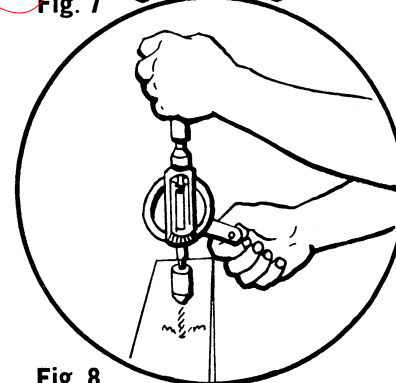

Fig. 8
- It's easier to put a screw into wood if you make a hole first with a nail or drill. (Fig. 8) Rub wax or soap on the screw threads to make it go in easier.